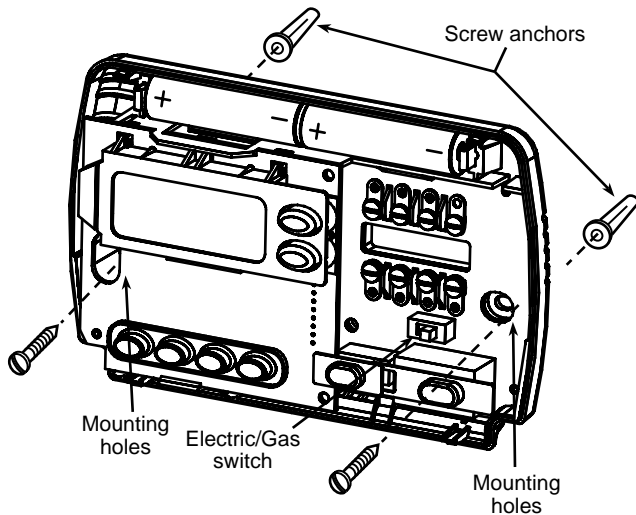

Figure 1. Thermostat base
This thermostat is configured from the factory to operate a heat/cool, fossil fuel (gas, oil, etc.), forced air system. It is configured correctly for any system that DOES NOT require the thermostat to energize the fan on a call for heat. If your system is an electric or heat-pump system that REQUIRES the thermostat to turn on the fan on a call for heat, locate the **GAS/ELECTRIC** switch (see fig. 1) and switch it to the **ELECTRIC** position. This will allow the thermostat to energize the fan immediately on a call for heat. If you are unsure if the heating/cooling system requires the thermostat to control the fan, contact a qualified heating and air conditioning service person.
5. Fasten base loosely to wall, as shown in fig. 1, using two mounting screws. Place a level against bottom of base, adjust until level, and then tighten screws. (Leveling is for appearance only and will not affect thermostat operation.) If you are using existing mounting holes, or if holes drilled are too large and do not allow you to tighten base snugly, use plastic screw anchors to secure base.
This thermostat requires 2 "AA" alkaline batteries to operate. If the word **LO BATTERY** is displayed, the batteries are low and should be replaced with fresh "AA" Energizer® alkaline batteries. To replace the batteries, install the batteries along the top of the base (see fig. 1). The batteries must be installed with the positive(+) ends to the right.